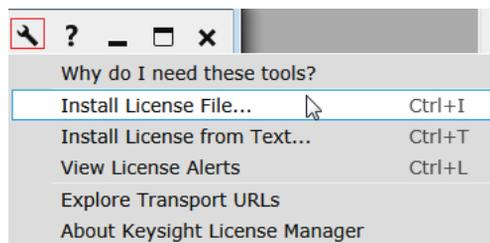

Figure 5 Configuration menu options to install licenses in KLM 5
- 3 From the configuration menu (Figure 5), use one of the options to install each license file.